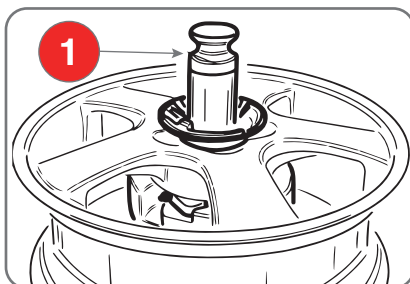

Fig. 6.11
- Take hold of the centring handle (1 - Fig.6.11) and adjust the position of the wheel by hand to fit the serrated rod into its centre hole (Fig.6.11).